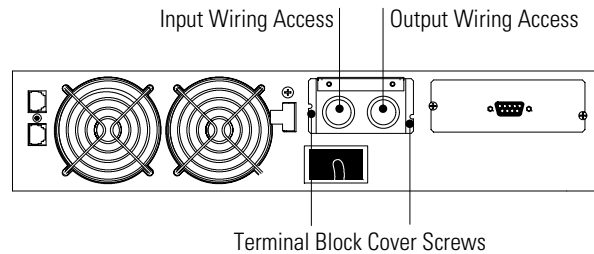

Figure 18. Wiring Access and Terminal Block
3. Remove the terminal block cover and the wiring knockouts (see Figure 18). Retain the terminal block cover.